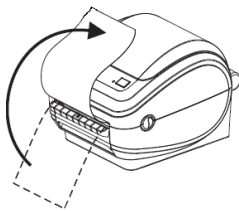

Figure 3.7.6 Lift the label backing.
- 1) Press the feed button. Once several inches of media have exited the printer, remove the labels and lift the sheet (Figure 3.7.6).